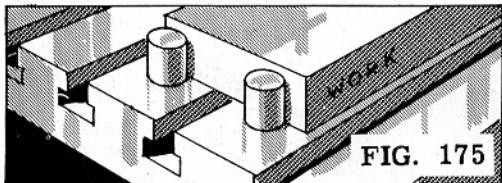

FIG. 175
4. Clean the two stops (A), and place them in the round holes located near the front of the table (Fig. 175).